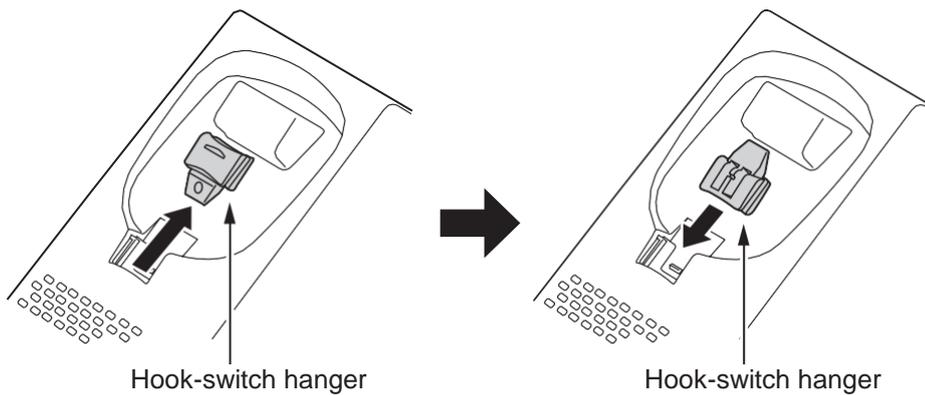

Figure 2-92 Hook-Switch Hanger
- Remove the switch-hook from the unit. Turn the tab toward the top. Then slide the hook-switch into position. Refer to Figure 2-92 Hook-Switch Hanger.